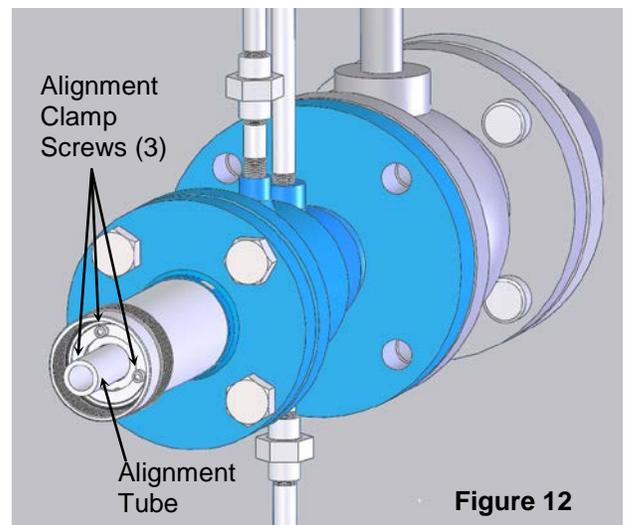

Figure 12
4. Loosen the three alignment clamp screws using a 9/64" hex wrench. (see Figure 12)